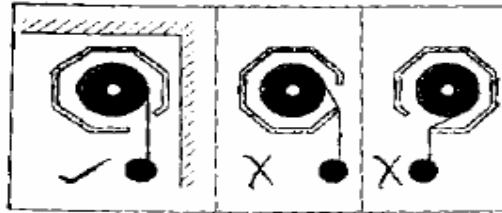

Fig. 5
1. Pull the screen down with the lanyard or by the handle at either a sharp incline or in a 90-degree angle. Do not attempt to pull the screen down by its material or touch the screen, as it will cause damage and likely void the warranty. (**Fig. 5**)